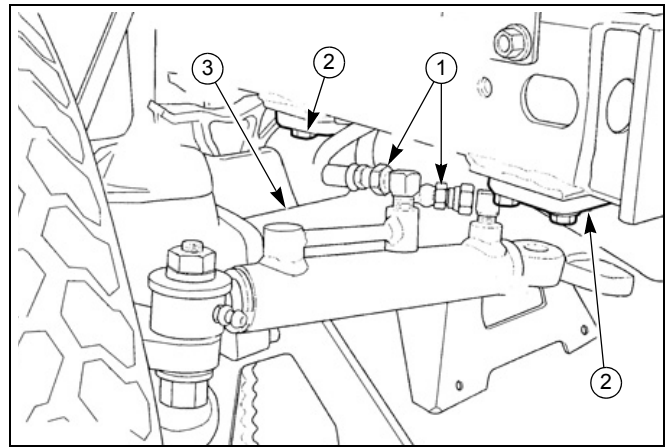

Figure 2-14
12. Disconnect the power steering lines ① from the power steering cylinder, located on the rear axle. Figure 2-14
13. Place four (4) safety stands under the main frame.
14. Remove the rear axle bearing holders ② from the frame and remove the rear axle assembly ③, pipe, drive shaft and coupling from the power unit. Figure 2-14